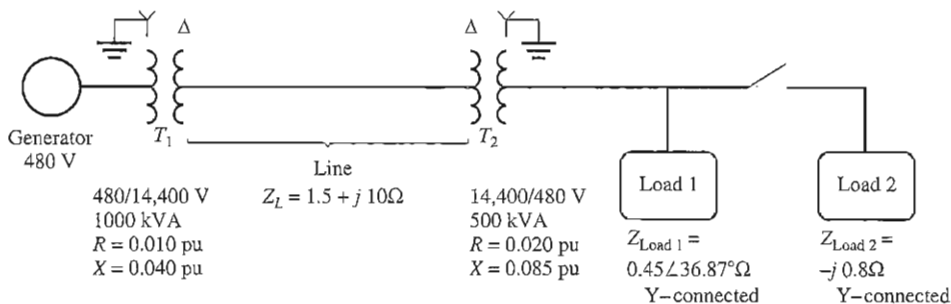

FIGURE P2-4
- 2-24. Figure P2-4 shows a one-line diagram of a power system consisting of a three-phase, 480-V, 60-Hz generator supplying two loads through a transmission line with a pair of transformers at either end. (NOTE: One-line diagrams are described in Appendix A, the discussion of three-phase power circuits.)